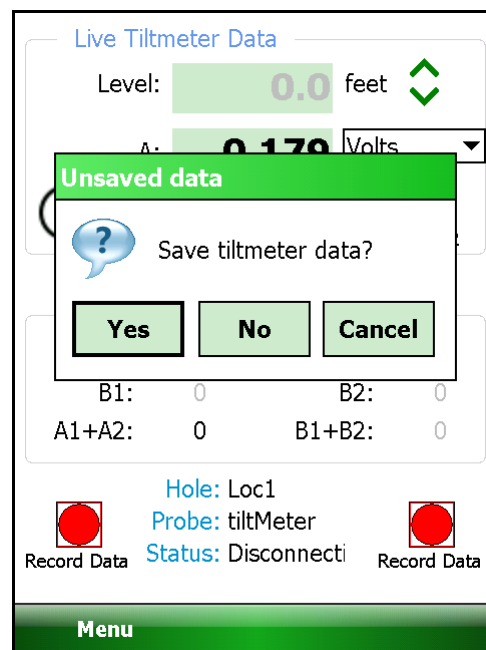

Figure 85 - Saving data query
10. Reverse the Tiltmeter orientation to A- and, again, tap "Record Data" to take the "A-" reading. Tapping "Menu->Exit Live Readings" will display the window in Figure 85.
7. Reverse the Tiltmeter orientation to A- and, again, tap "Record Data" to take the "A-" reading. For the Model 6101D, the "B-" reading is taken at the same time as "A-". Tapping "Menu->Exit Live Readings" will display the window in Figure 85.